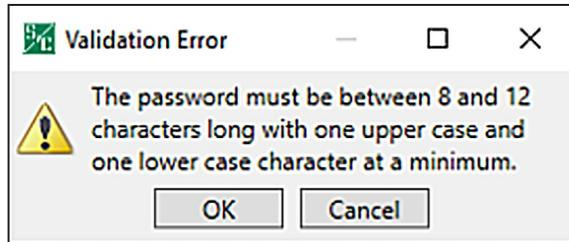

Figure 53. The Validation Error dialog box.
STEP 6. If the password was not successfully validated, the Validation Error dialog box will open. See Figure 53 on page 120. Click on the **OK** button to attempt to change the password again. Go to Step 3 on page 116.